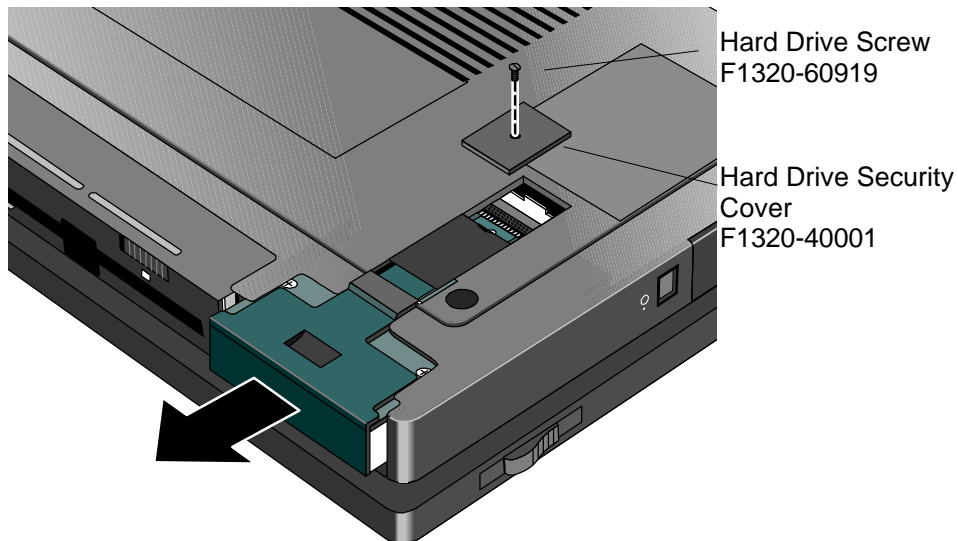

Figure 21 - Removing the Hard Disk Drive
3. Remove the screw and Security Cover located at the back end of the hard disk drive. See Figure 21.